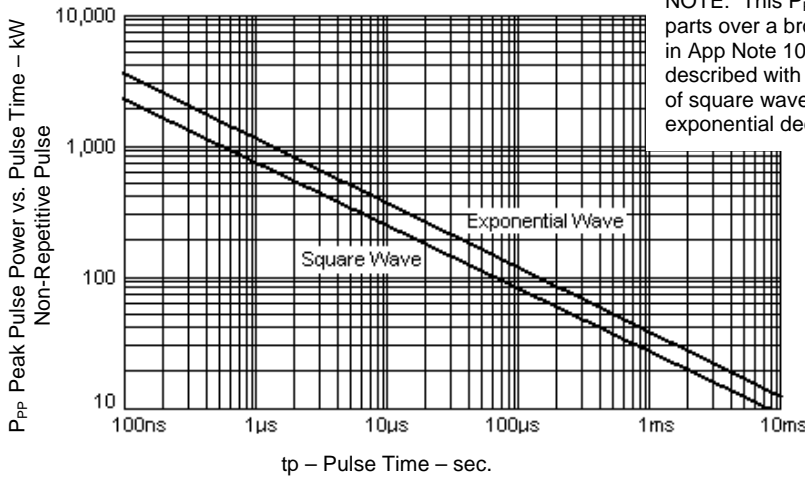

FIGURE 1
NOTE 1: See MicroNote 108 for lower Clamping Voltage performance at reduced I_p values relative to I_{PP} and P_{PP} ratings and Figure 1.
NOTE 2: Also equivalent to 90 and 87 Amps (40 kW) respectively at a longer impulse of 10/1000 μs (see Figure 1) with clamping voltages shown. Also see other equivalent peak pulse power performance levels for aircraft waveforms on page 3 for this device.
NOTE: The 1MHz damped oscillatory waveform (3) has an effective pulse width of 4 μ s. Equivalent peak pulse power for the RT130KP275CA and RT130KP295CA at each of the pulse widths represented in RTCA/DO-160E for wave forms 3, 4 and 5A (above) have been determined referencing Figure 1 herein as well as Application Notes 104 and 120 (found on Microsemi's website) and are listed below.